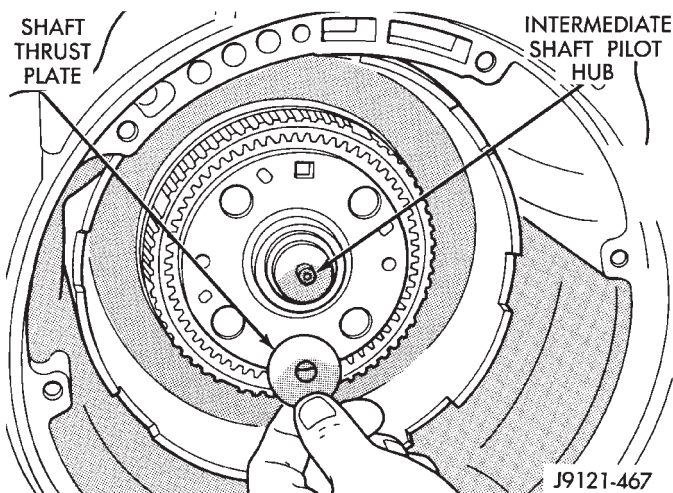

Fig. 142 Installing Intermediate Shaft Thrust Plate—46RH
(21) Lubricate intermediate shaft thrust plate with petroleum jelly and install plate on shaft pilot hub (Fig. 142).